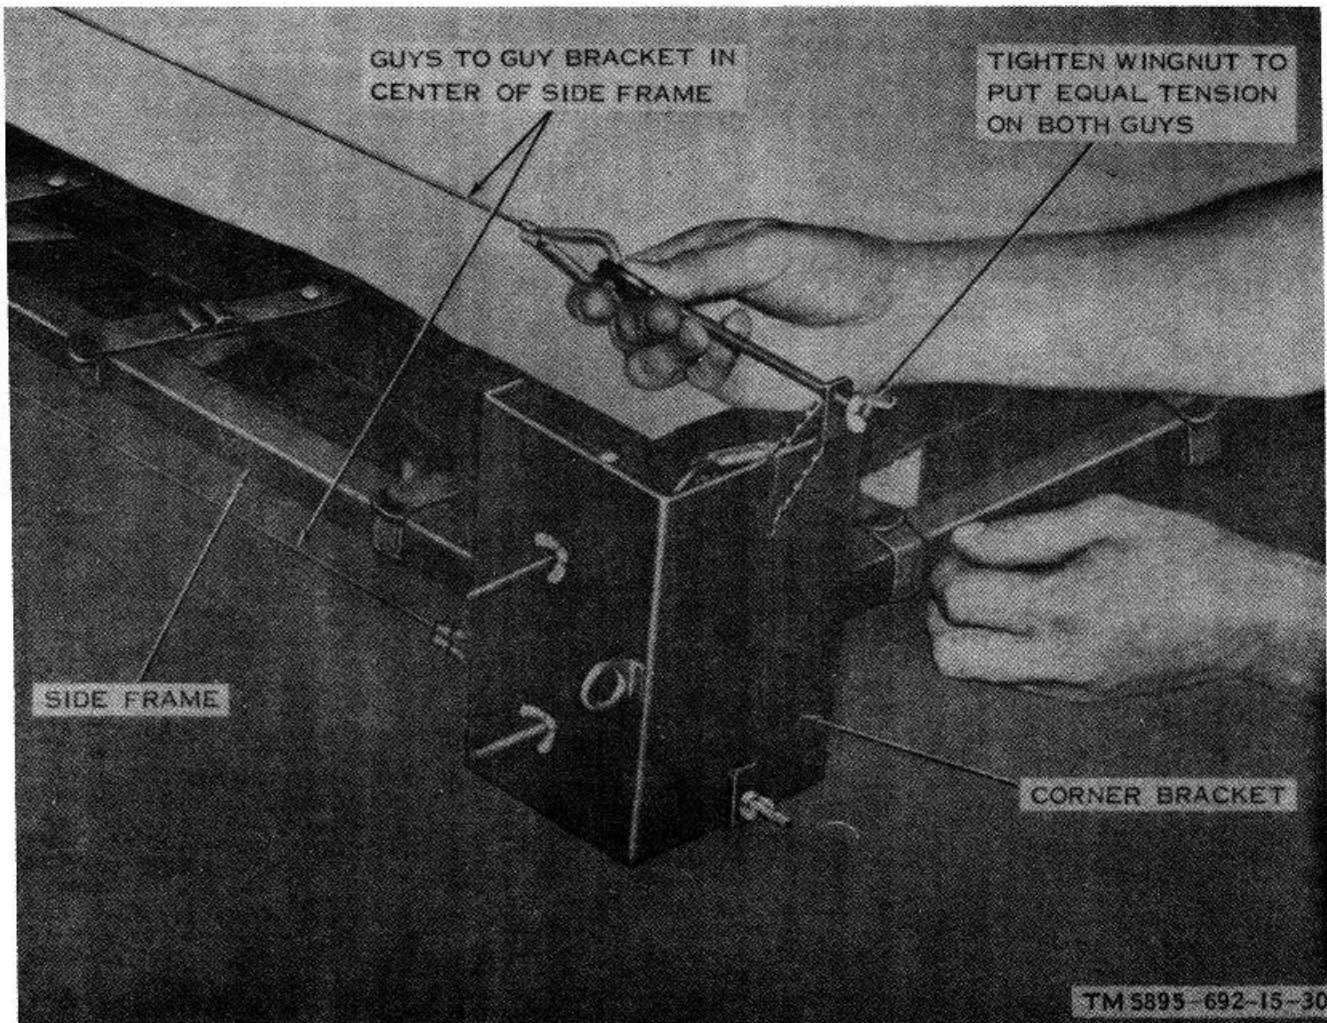

Figure 3-15. Mounting corner bracket on BM-22A framework for attachment to side guy bracket of BM-22A kit.
(1) On the top and bottom corner brackets, loosen the wingnuts of the wire guys that go to the brackets in the sides of the framework (fig. 3-15). After the wire guys are loosened, run the wingnuts up fully on the threads so that the small